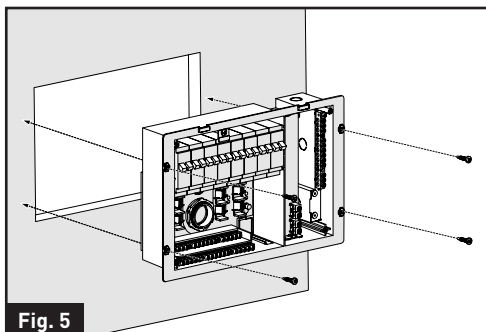
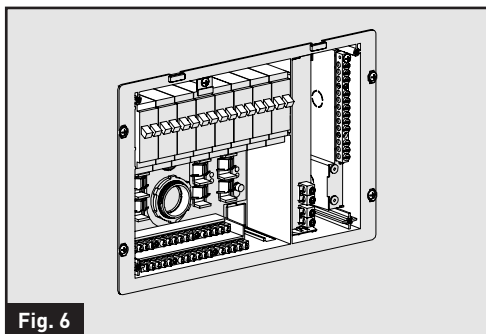

Fig. 5
Fig. 6
7. Slide the distribution panel in the opening area and fix with 4 self-tapping screws (#8-18 thread) (not supplied). (Fig. 5 and Fig. 6)